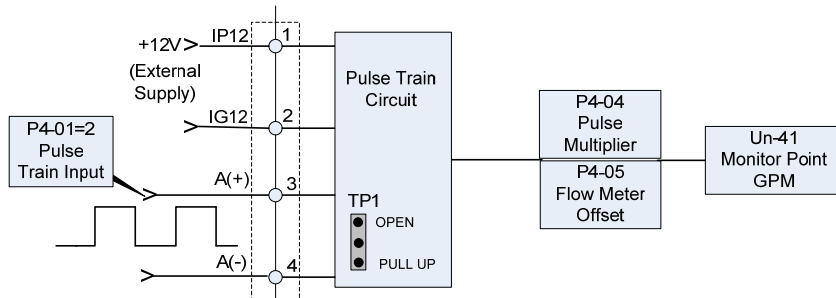

**Fig. 1.8.1 Flow Meter (P4-01=1 Aux. Input)**
- Fig.1.8.1 below is a block diagram of the flow meter function when Flow Meter Selection P4-01 is set to =1 (AUX input).